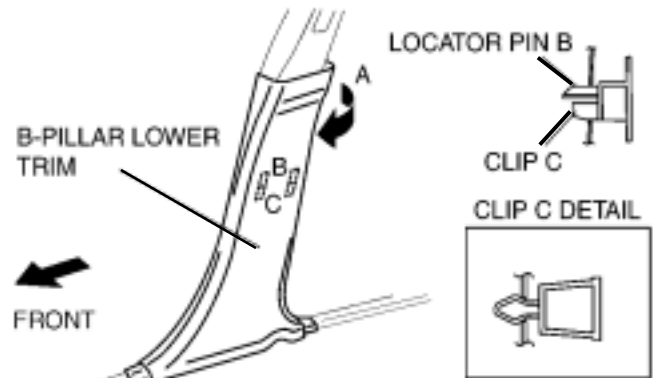

FIGURE 20
- 2.) FIRST PULL THE TOP HALF OF THE B-PILLAR LOWER TRIM OUTWARD (A) THEN PULL THE LOWER HALF OF THE TRIM OUTWARD AND DETACH CLIP (C) AND LOCATOR PIN (B). (SEE FIGURE 20)
- 4.) REMOVE THE B-PILLAR LOWER TRIM. (SEE FIGURE 20)